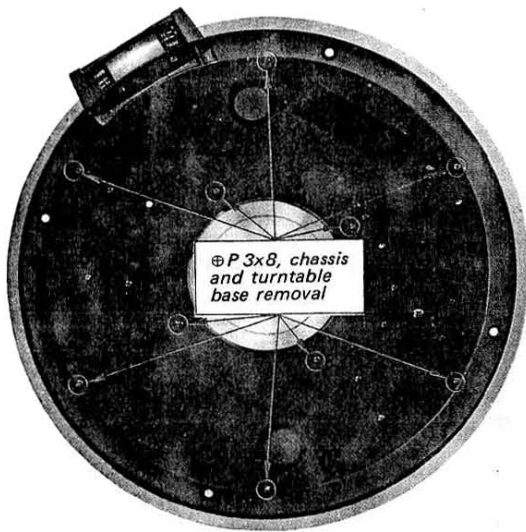
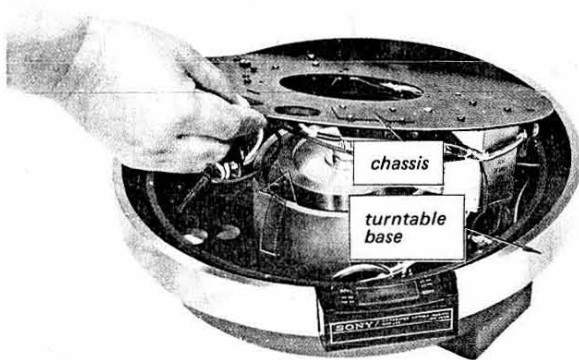

Fig. 2-4. Chassis and turntable base removal (1)
Fig. 2-5. Chassis and turntable base removal (2)
2. Remove the ten screws securing the turntable base to the chassis shown in Fig. 2-4. This frees the chassis as shown in Fig. 2-5.